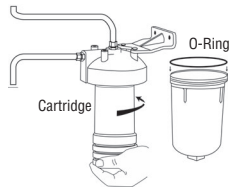

Figure 11
- Install cartridge by threading into head about 5-6 revolutions. Do not overtighten. Lubricate o-ring with water and put it back in housing groove. Thread the housing back on the head and hand tighten. Using of wrench to tighten the housing may damage housing and result in water leakage. (Figure 11)